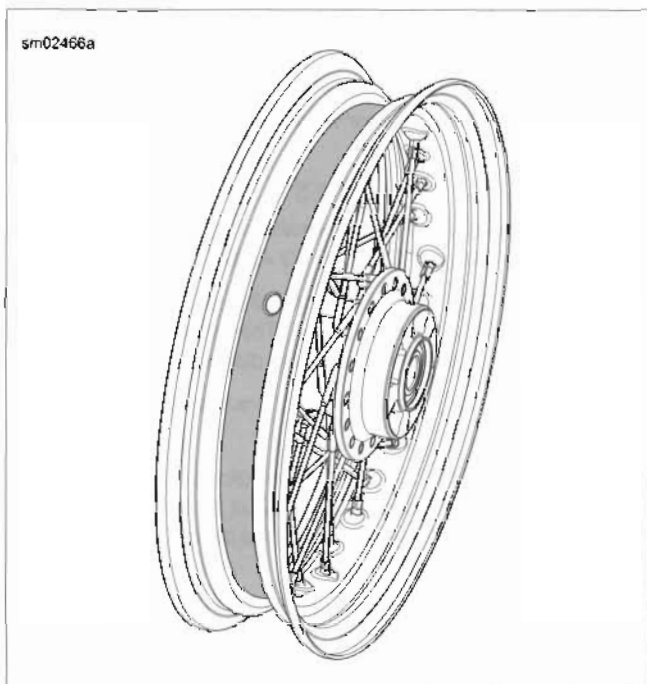

Figure 2-31. Installed Rim Strip
- See Figure 2-31. On tube type laced wheels, verify that no spokes protrude through nipples. Install a rim strip into the rim well. Check to align the valve stem hole in rim strip with valve stem hole in rim.